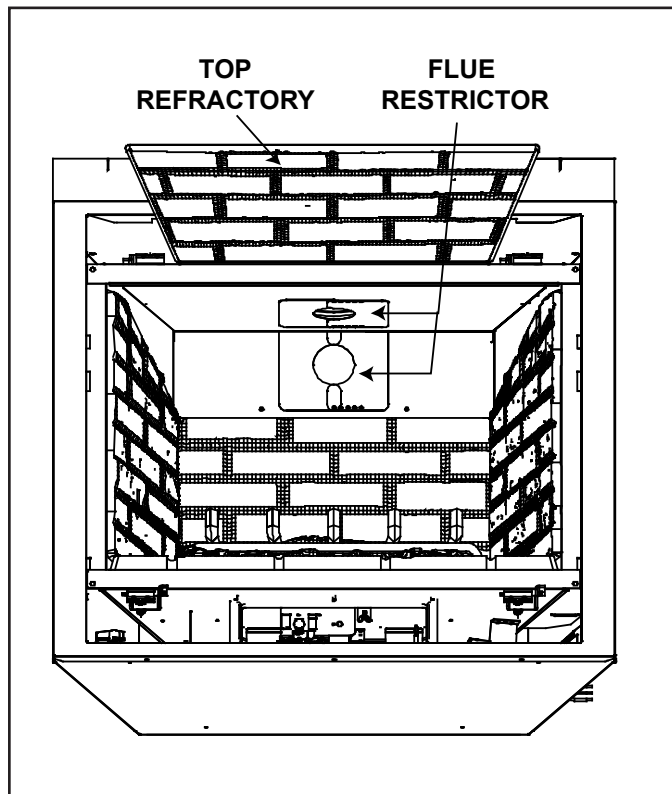

Figure 4.16
3. Orientate and align the two pieces of the flue restrictor as shown in Figure 4.16.
5. Center the two flue restrictor pieces on the vent at the setting selected in step 6 and secure in place by using two self-tapping screws. See Figure 4.16.